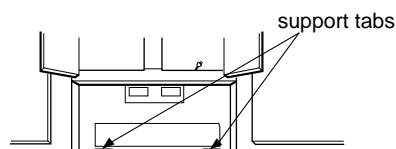
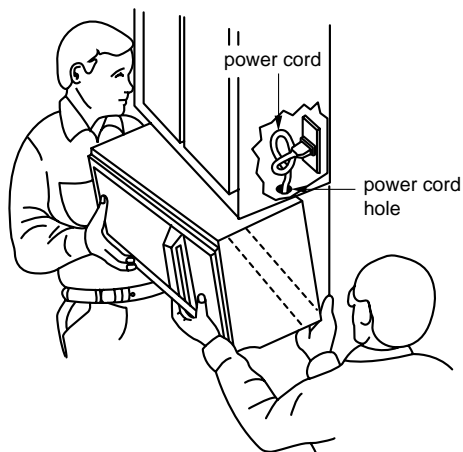

Figure 28
Figure 31
3. Place the mounting plate against the wall and match the screw holes. See Figure 28.
1. Carefully lift microwave oven and hang it on support tabs (See Figure 28, page 14) at the bottom of the mounting plate. Reaching through upper cabinet, thread power supply cord through the power supply cord hole in the bottom of the upper cabinet. See Figure 31.